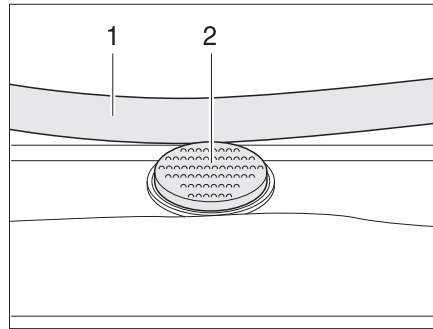

Fig. 83 Safety knob on the Heki skylight
- Press the safety knob (Fig. 83,2) and pull the bar (Fig. 83,1) down with both hands.
- Push the bar upwards with both hands until it is above the safety knob (Fig. 83,2).